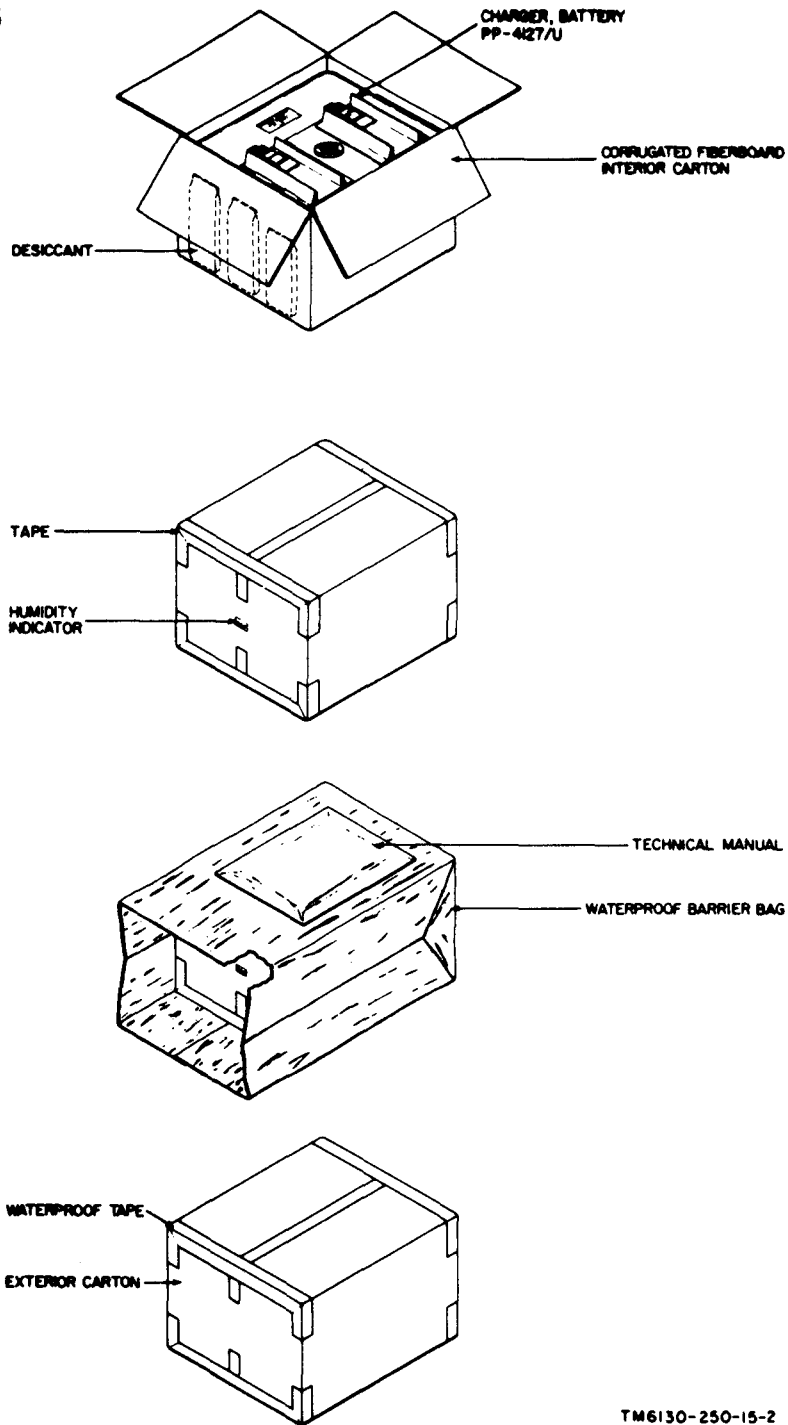

Figure 2-1. Typical packaging.
a. *Packaging Data.* The method of packaging the PP-4127/U for shipment is shown in figure 2-1. Dimensions and volume of the shipping cartons are given in the chart below.